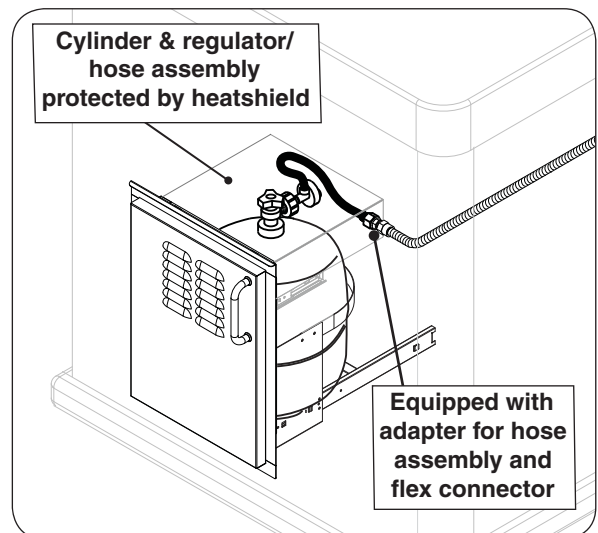

Fig. 10-3 Optional Fire Magic door w/tank tray
- **Fire Magic offers a propane cylinder door with tank tray to meet the cylinder install requirements. See Fig. 10-3.**